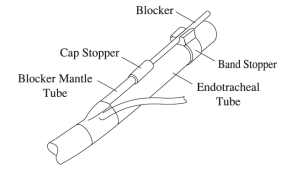

Fig.7
5. Turn the patient on the side, check the blocker cuff position under bronchoscopy, and fix the blocker shaft on the endotracheal tube using the band stopper (Fig.7).
2. Snap the blocker onto the band stopper on the endotracheal tube (Fig.7).